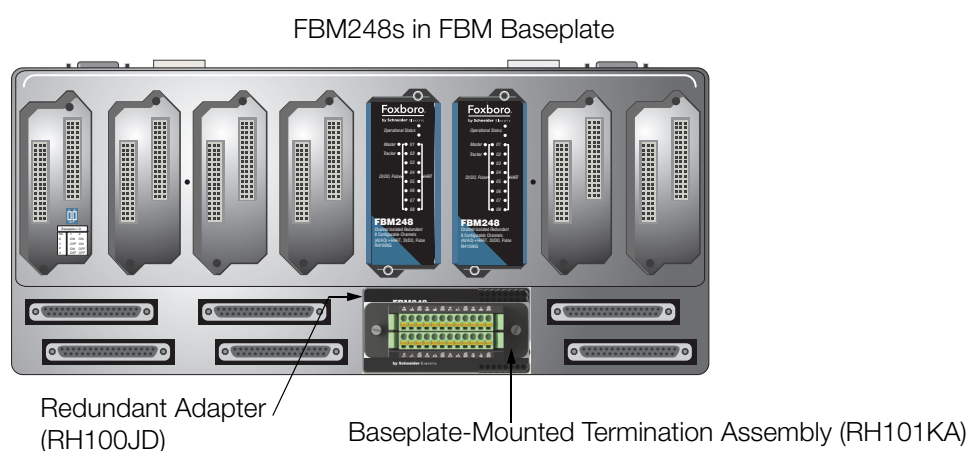

Figure 3. Baseplate-Mounted Termination Assembly (RH101KA) for FBM248 Pair (RH101KA)
- Baseplate-mounted TA (RH101KA), which provides field I/O wiring support for redundant FBM248s in paired slots (that is, in positions 1 and 2, 3 and 4, 5 and 6, or 7 and 8), as shown in Figure 3. This TA mounts directly onto the redundant adapter (RH100JD) which must be installed directly onto the field I/O connectors on the 200 Series baseplate.